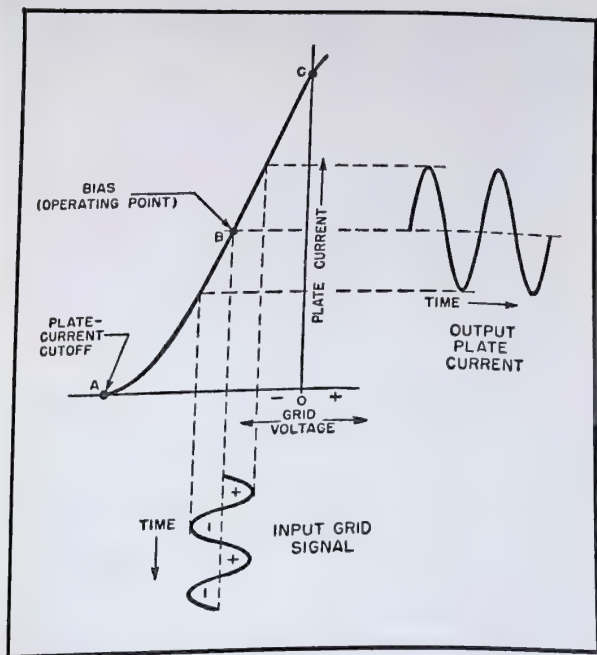

Fig. 11-6. Class A amplifier characteristics.
**Class A Operation.** The class A amplifier is so biased that plate current flows constantly. In Fig. 11-6 point B is the operating